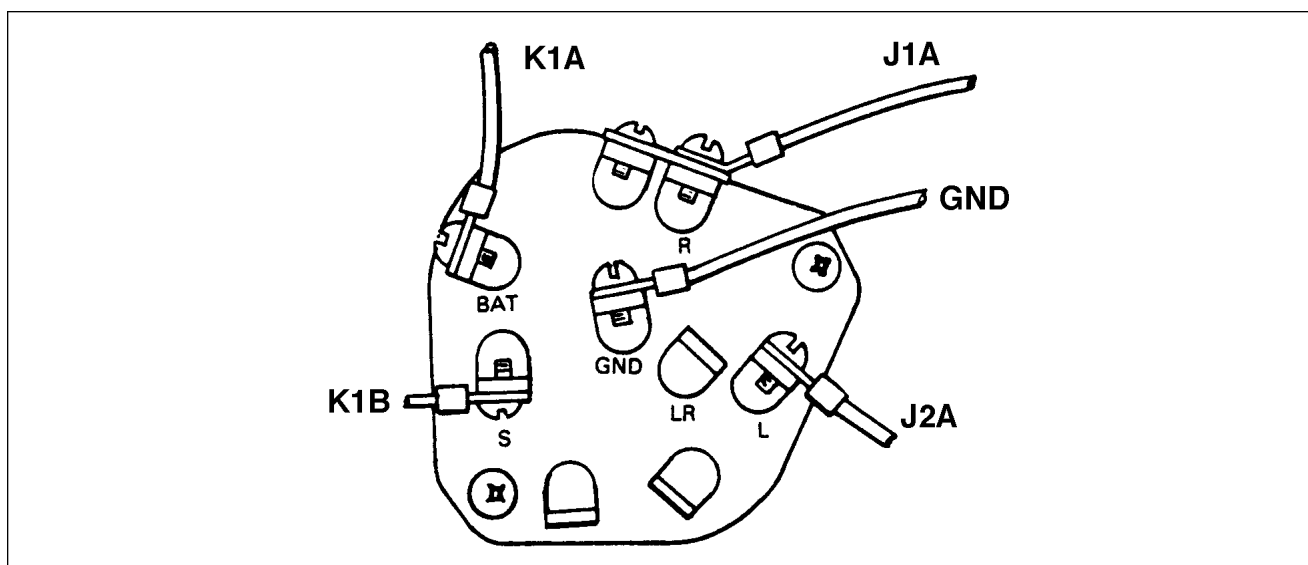

Figure 11-60. Ignition Switch Wire Positions
- a. Connect wires to ignition switch as shown in Figure 11-60.